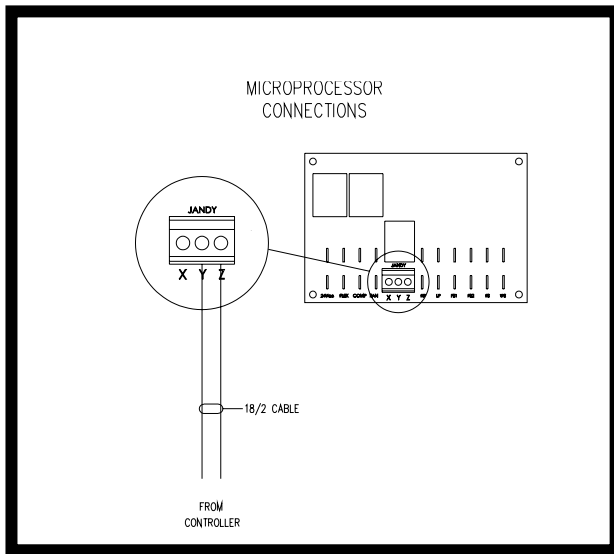

Figure 2
3. Connect the 18/2 cable from the controllers low voltage heater terminals to the **MICROPROCESSOR POWER BOARD** Jandy terminal block, terminals **Y** and **Z**. (See figure 2)